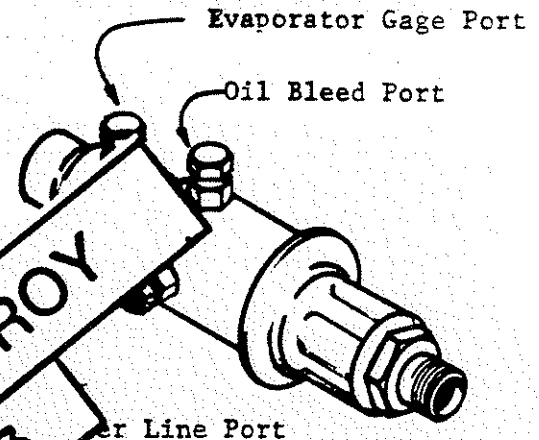

Fig. 3
- b. The Frigidaire S.T.V. valve shown in fig. 3 has three ports. The evaporator gage port is used for evaporator pressure testing as described in (a). The oil bleed part is not used, and must be sealed with 22-14966-000 seal under the cap.